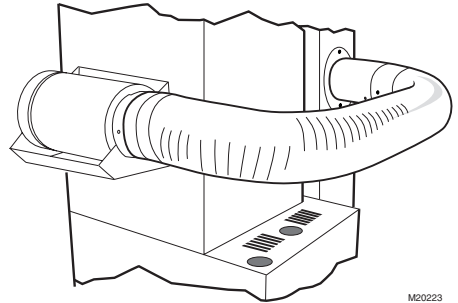

Fig. 11. Connecting bypass ducting.
5. Using sheet metal screws, connect starter collar to the duct and bypass duct from humidifier to starter collar. Be sure to secure the collar to the duct with sheet metal screws. See Fig. 11.